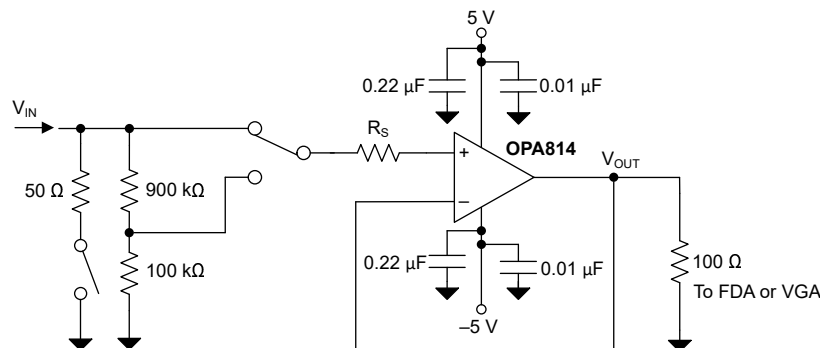
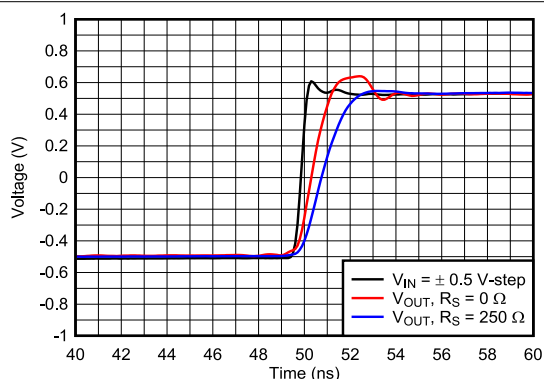
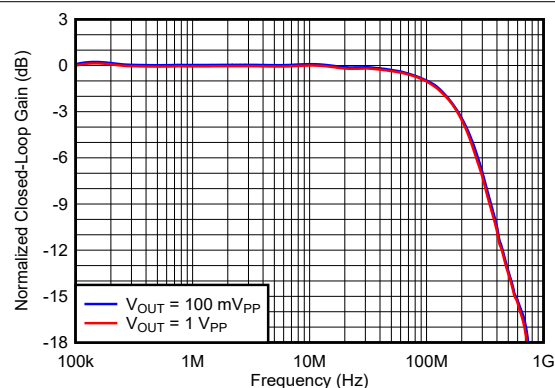

図 8-4. High-Input-Impedance, 180-MHz, Digitizer Front-End Amplifier
Figure 8-5. Step Response of Digitizer Front-End
Figure 8-6. Frequency Response for $R_S = 250 \, \Omega$
- **Optimizing Overshoot:** The OPA814 features an internal slew-boost circuit to deliver fast rise-time in applications that require high slew rates, such as when configured as a transimpedance amplifier. For applications where overshoot must be limited, limit the input slew rates by introducing a series resistance (R_S); see also Figure 8-4. Resistor R_S forms a low-pass filter with an input capacitance of approximately 2.5 pF at the noninverting pin of the OPA814, thus limiting the input slew rate to the amplifier. Figure 8-5 shows how limiting the input slew rate to the amplifier results in good overshoot performance. Figure 8-6 shows how this configuration achieves a small-signal and large-signal bandwidth of 180 MHz.